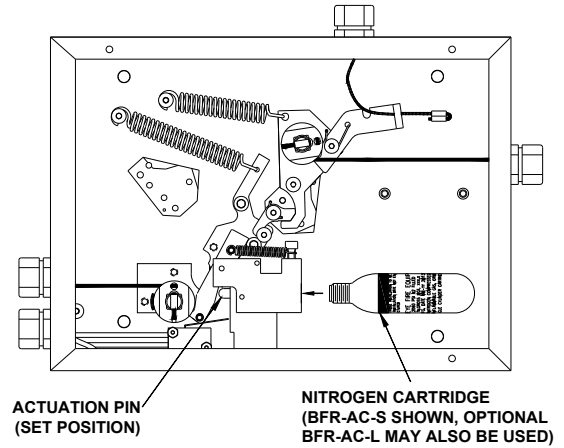

Figure 4-69
3. **ONLY** a Buckeye Nitrogen Actuation Cartridge may be used in the Systems Releasing Module(s). Carefully hand-tighten the Nitrogen Cartridge completely into the threaded hole of the Manifold Mounting Block. This should take approximately ten (10) full turns of the cartridge. See **Figure 4-69**.